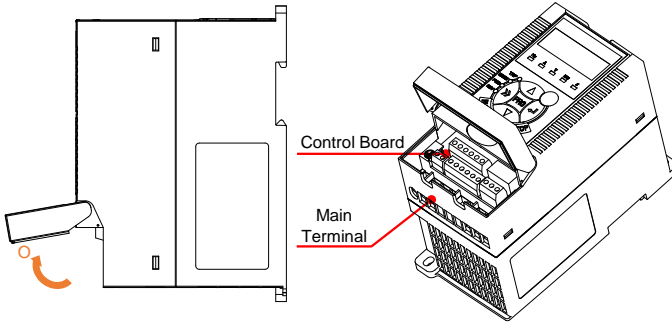

Fig.3-2 NE200 2P 200V 0.4~2.2kW(GB)/3P 400V 0.75(GB)~5.5kW(PB)
- Wiring preparation: Open cover along the 'O' direction, close it along the opposite direction, see Fig. 3-2.